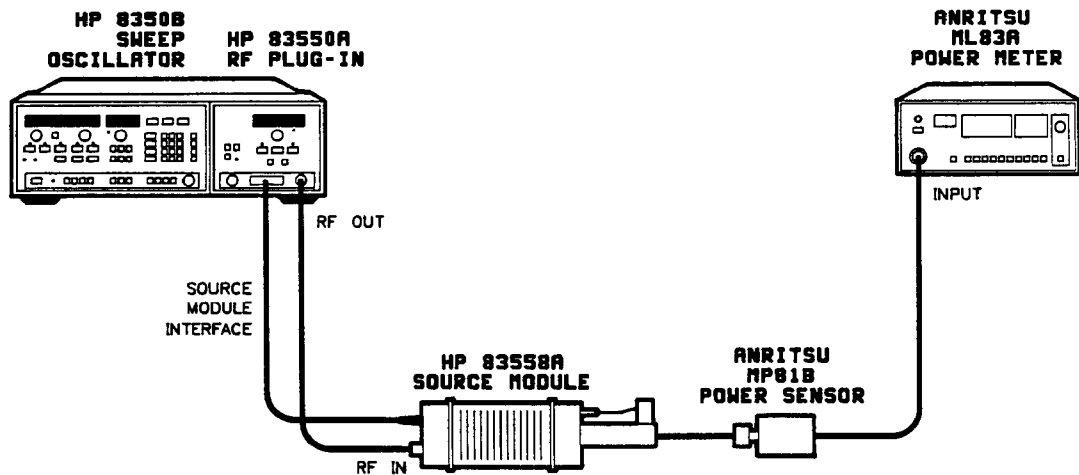

Figure 2a-3. System Configuration
1. Connect the equipment as shown in Figure 2a-3. Do not connect the power sensor to the HP 83558A output.